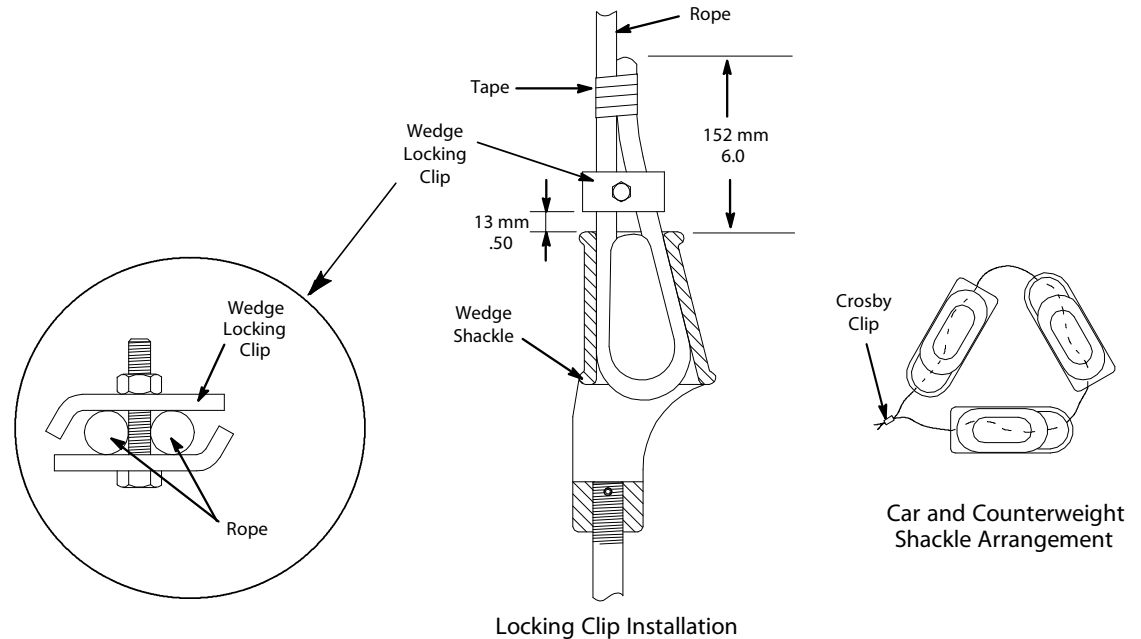

Figure 25 - Locking Clip Installation and Rope Clipping
10. Install a wedge locking clip on each rope. See Figure 25.